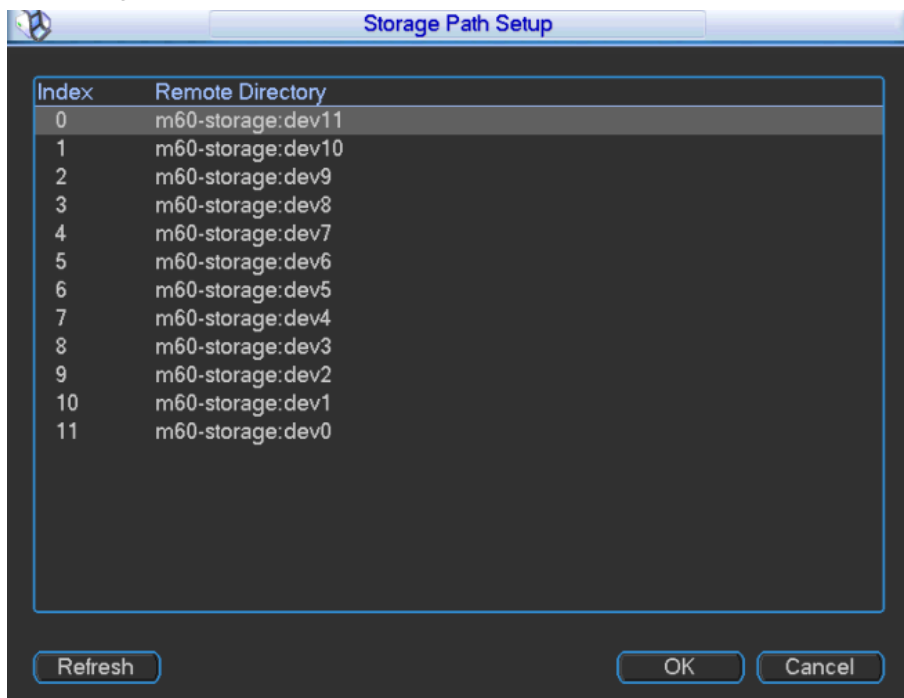

Figure 3-49
Step 3 Click "Storage Path Setup", and the system displays "Storage Path Setup" interface, as shown in Figure 3-49.